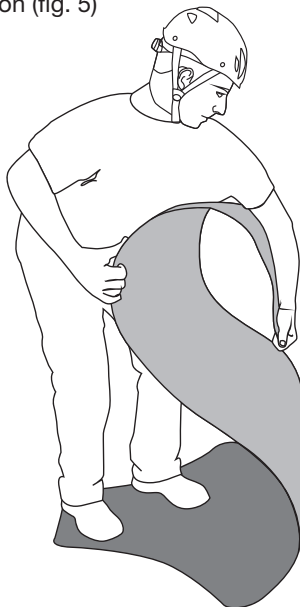

Fig. 5
- a) Remove the “**ROLLY**” rescue sheet from the transport bag (O) and remove the ratchet sling (N)
- b) Distend the support surface (A) and flatten it, rolling the ends over in the opposite direction and folding the central section (fig. 5)